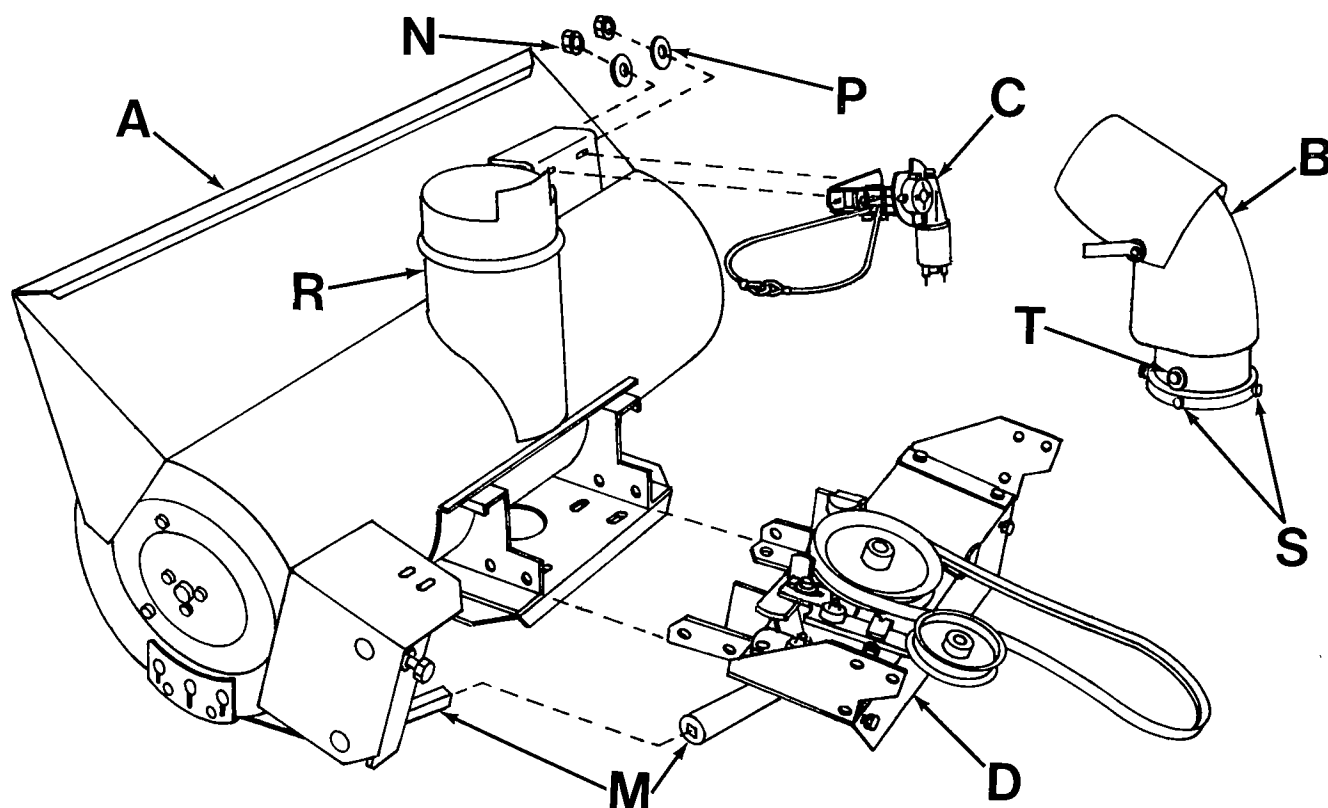

FIG. 3
1. Align two halves of universal shaft (M) sliding them together as you place projecting angles of mounting frame (D) into mounting box at rear of header housing (A). (See Fig. 3)
2. Align holes in projecting angles of mounting frame (D) with holes in mounting box of header housing (A).
3. Secure mounting frame (D) to header housing (A) with eight carriage bolts, flat washers, lock washers and nuts, two bolts each side and four bolts through bottom.
1. Disassemble two nuts (N) and two washers (P) from electric level wind (C). (See Fig. 3)
2. Assemble electric level wind (C) to header housing (A) with cable (Q) facing toward header housing discharge stack (R).
3. Loop cable (Q) over discharge stack (R) being careful not to cross cables. Allow cable (W) to fall below ring of discharge stack (R).
4. Pull electric level wind (C) away from discharge stack (R) to take slack out of cable (Q). Secure electric level wind (C) to header housing (A) with two nuts (N) and two washers (P).
1. Loosen the four bolts (S) at the base of discharge chute (B). (See Fig. 3)
2. Place discharge chute (B) onto discharge stack (R).
3. Tighten the four bolts (S). These bolts retain the discharge chute (B) to the discharge stack (R) yet allows the discharge chute to rotate freely.
4. Loop both ends of cable (Q) over bolt (T) as shown in Figure 3.